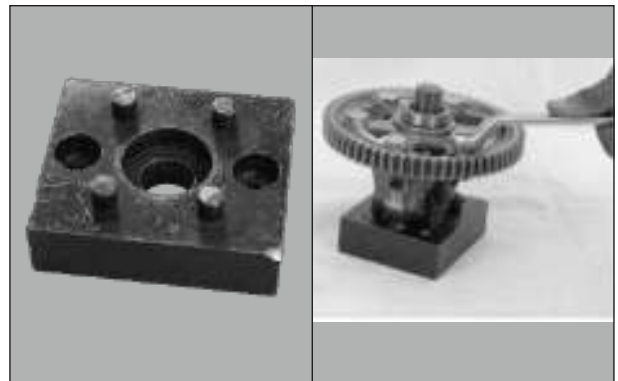

Fig. 1.4
- Fix the differential assembly as shown in the figure and loosen the bolt. (Fig. 1.4)